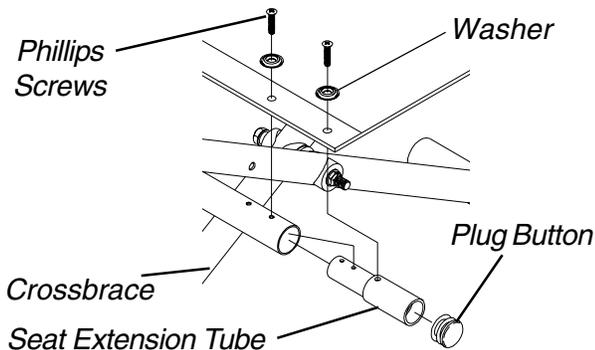

FIGURE 1 - ADJUSTING SEAT DEPTH
**ADJUSTING SEAT DEPTH (FIGURE 1)**
2. Remove the two (2) plug buttons from the ends of the crossbraces that are towards front of wheelchair.
*NOTE: The two (2) plug buttons will be used in the ends of the seat extensions.*
3. Install the two (2) seat extension tubes into the ends on the crossbraces. Line up the **second** mounting hole from the **rear** of the seat extension tube with the front mounting hole in the crossbrace.